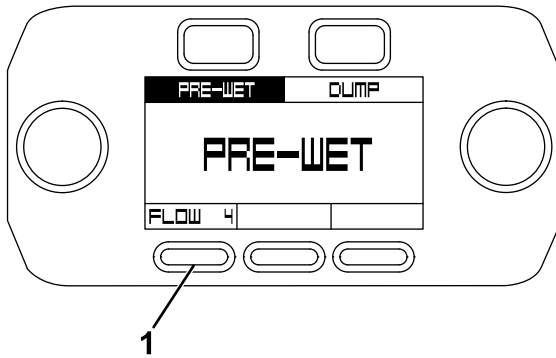

Figure 45
3. On the pre-wet screen, press the Flow button to cycle between the flow speeds (Figure 45).